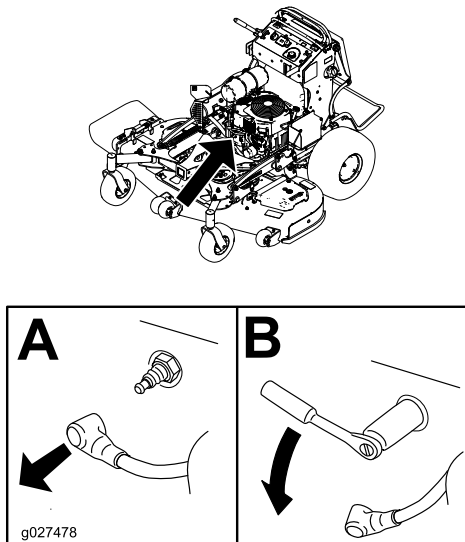

Figure 48
3. Remove the spark plug as shown in Figure 48.